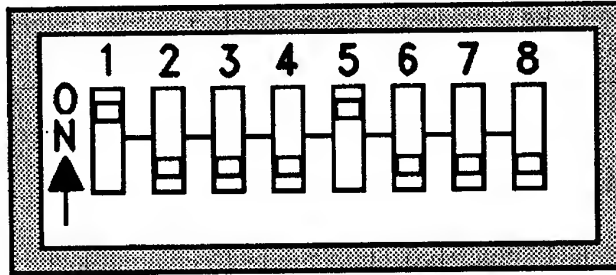

Figure B-3 Rear Panel Dip Switches
Note: U = UP (ON), D = DOWN (OFF); refer to fig. B-3
Definition: This menu selection determines the I/O Command Device. The rear panel selector switch assembly determines the default CMD Device selection. Refer to figure B-3 for further clarification on the rear panel selector switch assembly.